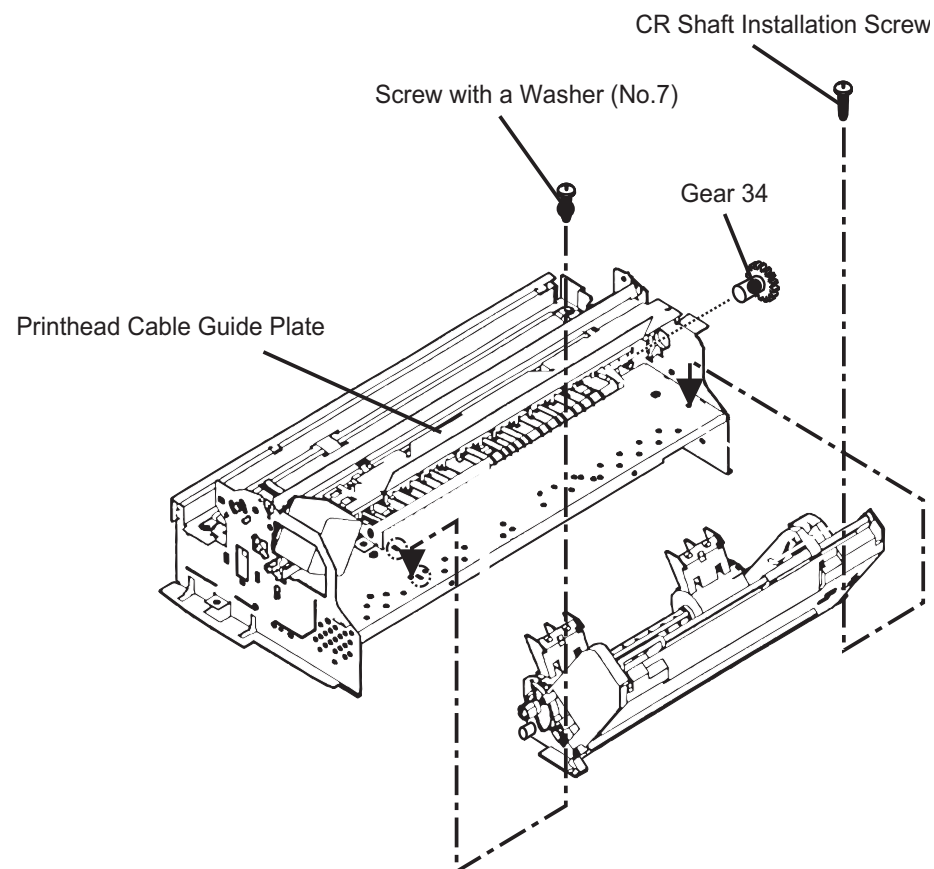

Figure 4-15. Removing the ASF Assembly
4. Remove gear 34 from the ASF assembly. (See Figure 4-15.) To remove the gear, turn it so that the two black hooks holding it on the inner shaft become visible. Gently pry the hooks outward from the shaft with tweezers while pulling on the gear to remove it.